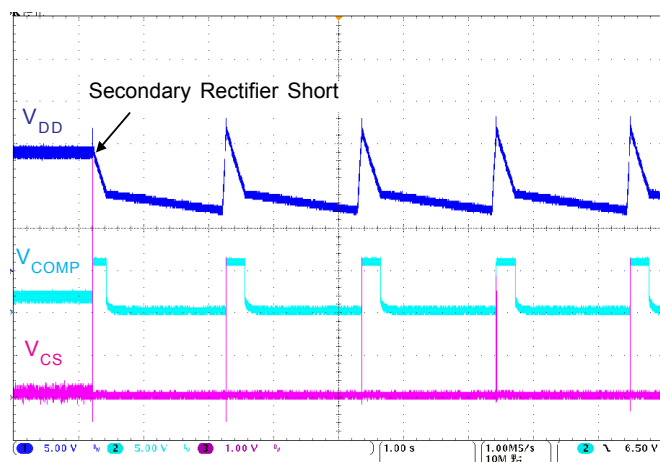

Figure 2. Secondary Rectifier Short Protection
- **Secondary Rectifier Short Protection** : As shown in Figure 2. The current spike during secondary rectifier short test is extremely high because of the saturated main transformer. Meanwhile, the transformer acts like a leakage inductance. During high line, the current in power FET is sometimes too high to wait for a 56ms OLP delay time. To offer better and easier protection design, the R7779 shuts down the controller after couples of cycles before fuse is blown up.